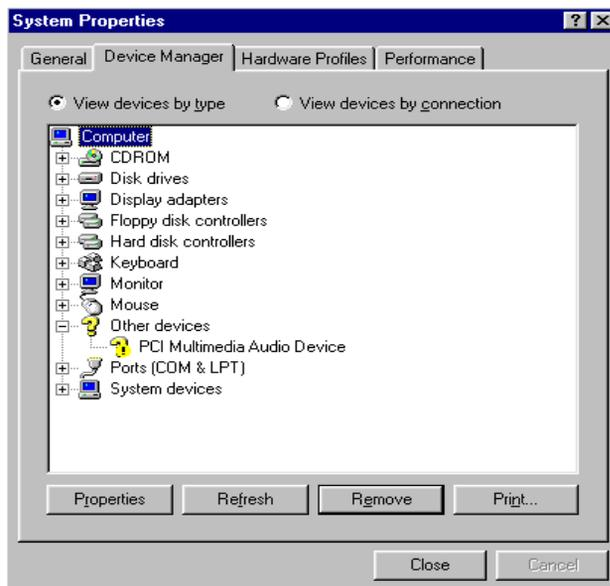

Figure 2-1 The Device Manager of System Properties
- 1) Before the Driver installed into Windows 95/98, you will find a Yellow question mark still exists in the “Other Devices” of the “Device Manager” of “System Properties” show in Figure 2-1 below.